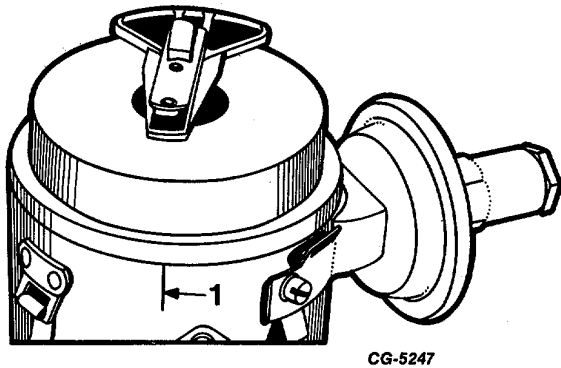

Fig. 3 Rotor Position Reference Mark
5. Scribe a mark on distributor housing in line with tip of rotor (Figure 3) and note position of rotor and distributor housing in relation to surrounding engine parts as reference points for reinstalling distributor.